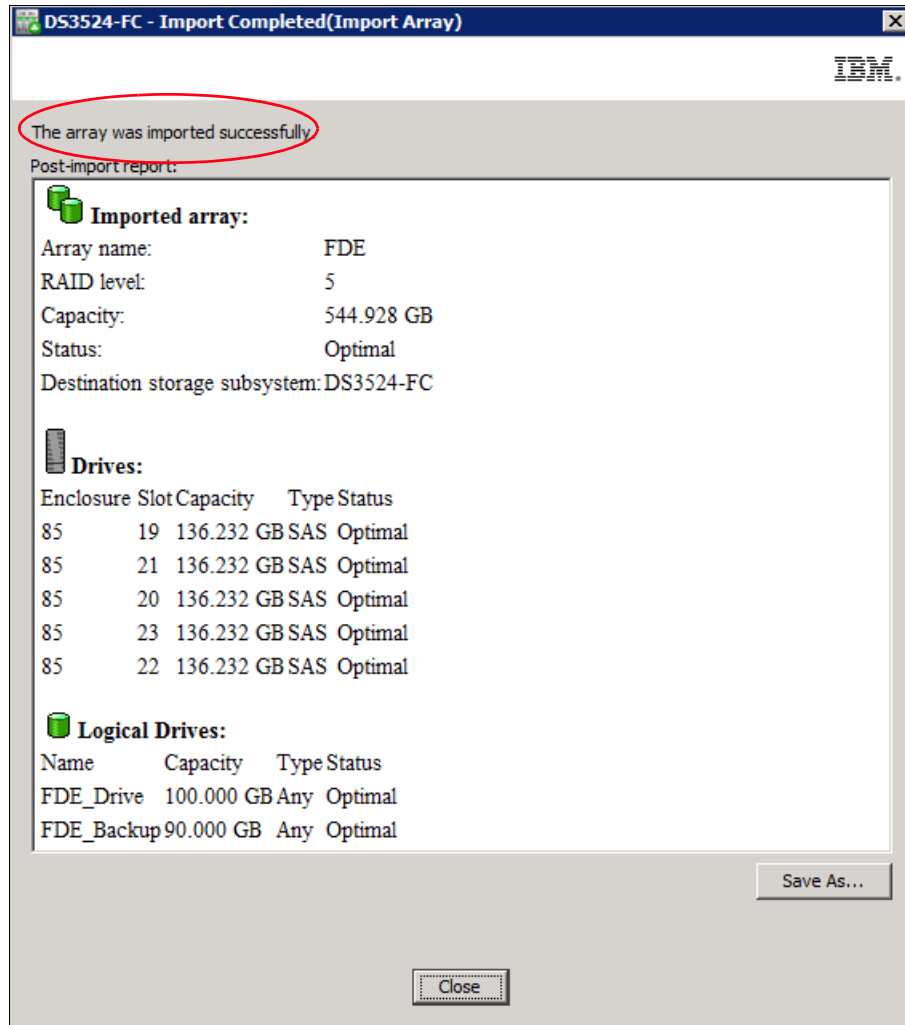

Figure 15-39 Import completed
4. Figure 15-39 confirms the importation of the drives.